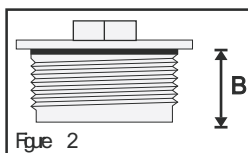

Figure 2
- B. Measure the length of the fork cap that screws into the fork tube (See figure 2).